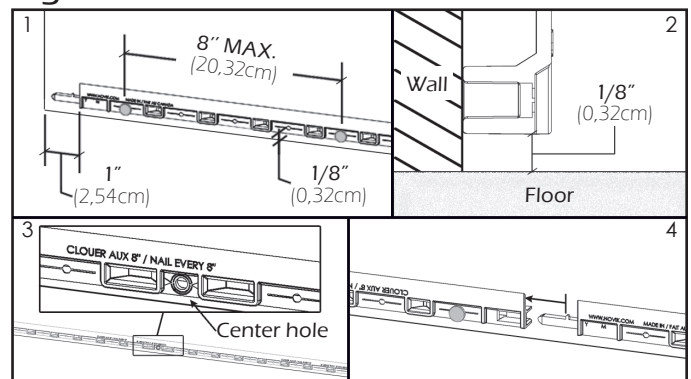

Figure A.1
- Pro Series Unisersal Starter Strip (Figure A.1):